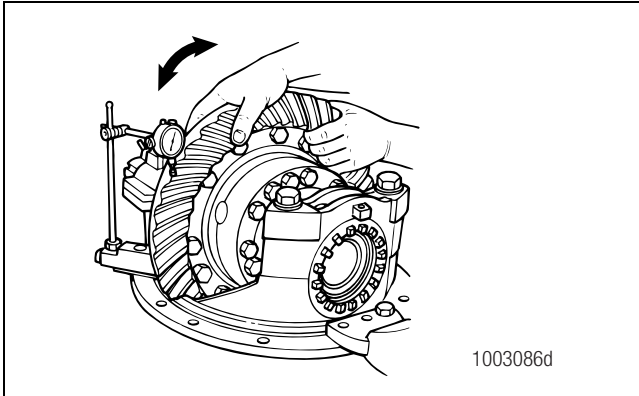

Figure 5.44
1. Attach a dial indicator onto the carrier mounting flange. Figure 5.44.